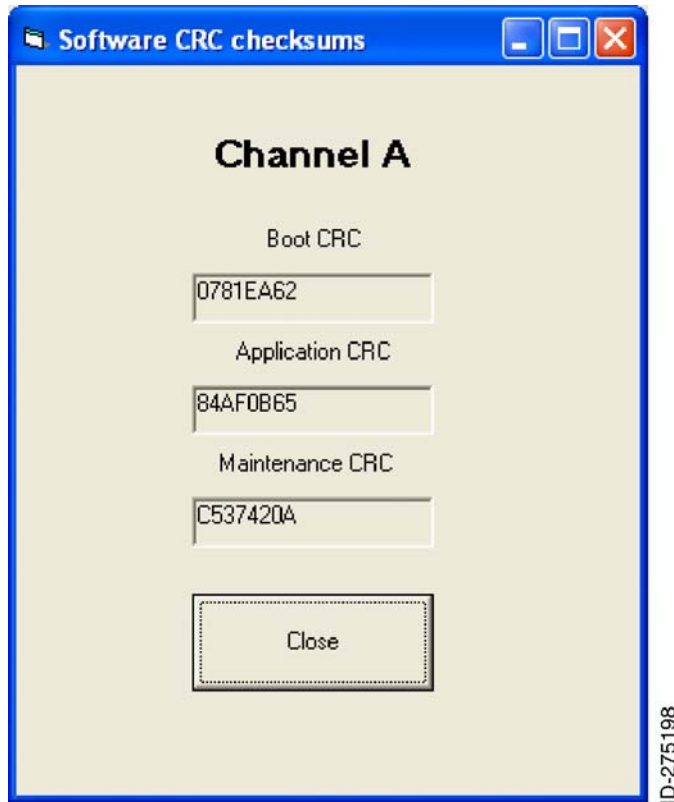

Figure 53. (Sheet 1 of 1) Software CRC Checksums Window
- (6) Click on the Software CRC's button.
- (7) Verify the following values are displayed on the Software CRC checksums window. Refer to Figure 53: